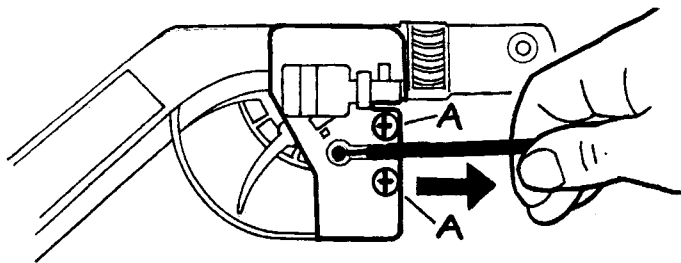
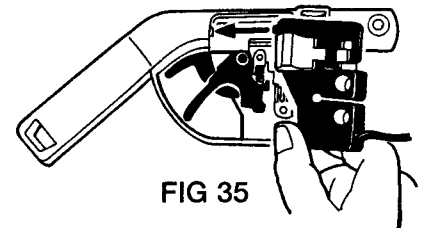
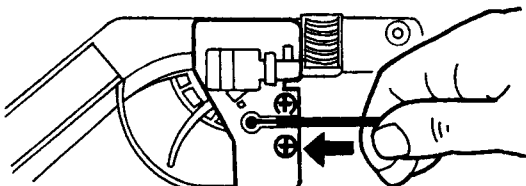

FIG 31
FIG 35
FIG 40
Loosen 2 screws. Pull black outer cable outwards, retighten screws in this position. Motor should now switch on. When you switch on you can hear a "click" in the motor casing (Fig.31).
1. Remove 2 screws (A) as shown in Fig 31 and remove cover and all parts. Re-assemble as follows.
5. Hold trigger in place with finger until switch cover #44069 is fitted (Fig 35). It is then ready for screwing tight (with 2 screws (A) as shown in Fig 31). Ensure switch cover rear lug (arrowed Fig. 35) engages underside of handle wall.
2. To replace switch cable, reverse above procedure. Outer cable must be pushed fully in before screwing down cover screws (Fig. 40). If motor does not switch on see (B) Fig. 31, P. 11.